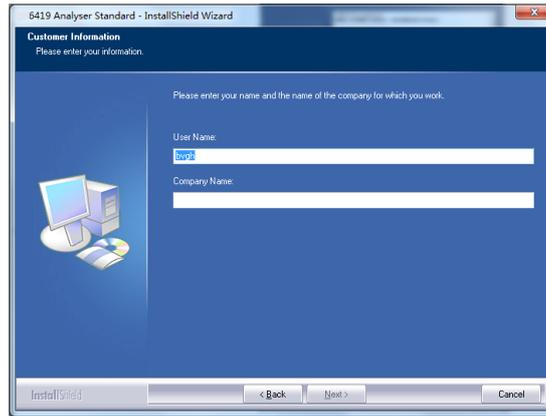

Figure A-3 User Information dialog box
Step 3 In the displayed User Information dialog box, specify the user name and company name, as shown in Figure A-3. Then, click Next.